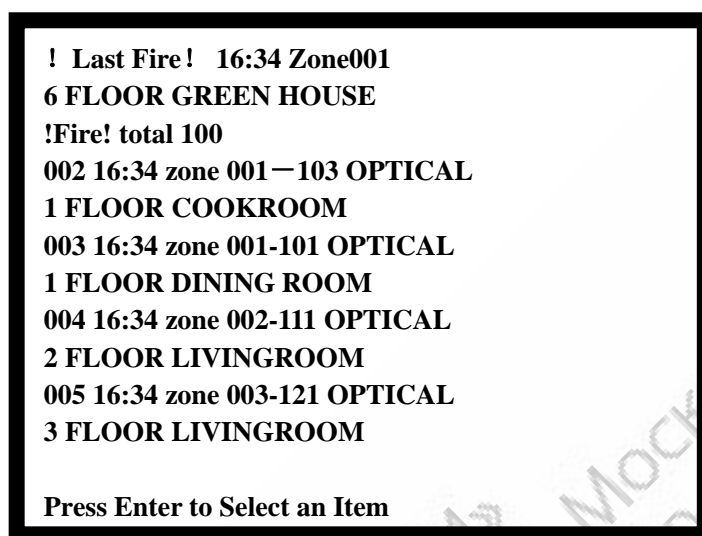

Fig. 5-3
② Device mode fire information shows in Fig. 5-3.